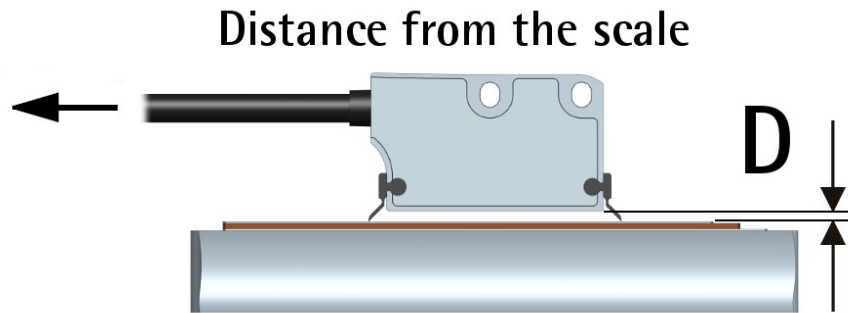
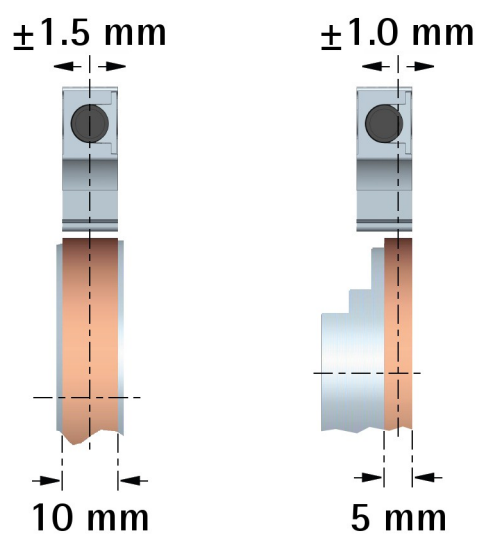
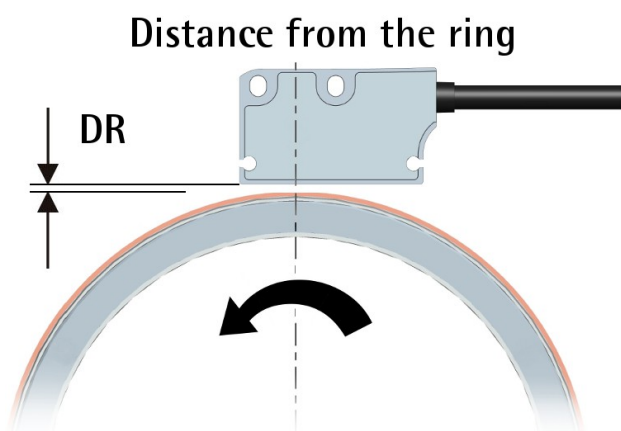

Figure 1 - Encoder / tape mounting gap
Figure 4 - Sensor / ring alignment
Figure 5 - Sensor / ring mounting gap
You can mount the readhead in both directions over the tape. The arrow in Figure 1 indicates the **standard counting direction** (the rising edge of A signal leads the rising edge of B signal) when the sensor moves in the direction indicated by the arrow; further information in the "4.7 Counting direction" section on page 22.
The distance D (see Figure 1) between the bottom of the encoder and the MTI magnetic scale must be as follows:
When the sensor is installed on magnetic rings having a 10 mm / 0.4" wide magnetic surface, line up both the sensor and the ring on the central axis. When magnetic rings having a 5 mm / 0.2" wide magnetic surface are used, line up the sensor and the ring as shown in Figure 4; please consider that the incremental sensor is located laterally in the sensing head. With 5 mm rings the mounting direction of the ring makes no difference (but ascertain that the sensor is properly aligned on the correct side!).
To learn about the mounting tolerances refer to the tables below as well as to Figure 4 and Figure 5.
The positive counting direction (the rising edge of A signal leads the rising edge of B signal) is achieved when the sensor moves on the tape according to the arrow shown in Figure 1; or when the ring turns according to the arrow shown in Figure 5. For further information see the "4.7 Counting direction" section on page 22.
3.10 Optional cleaning wipers (Figure 1)
The **standard counting direction** (the channel A leads the channel B) is to be intended with sensor moving as shown in Figure 1 in a linear application; with ring turning as indicated by the arrow in Figure 5 in a rotary application.
By default the phase relationship between A and B channels is so that the rising edge of A channel leads the rising edge of B channel when the encoder moves in the direction shown by the arrow in Figure 1 in a linear application; or when the ring turns as indicated by the arrow in Figure 5 in a rotary application (see the "4.6 AB0, /AB0 output channels" section on page 22). Thus the counter in the subsequent electronics will get a count up. It cannot be changed.